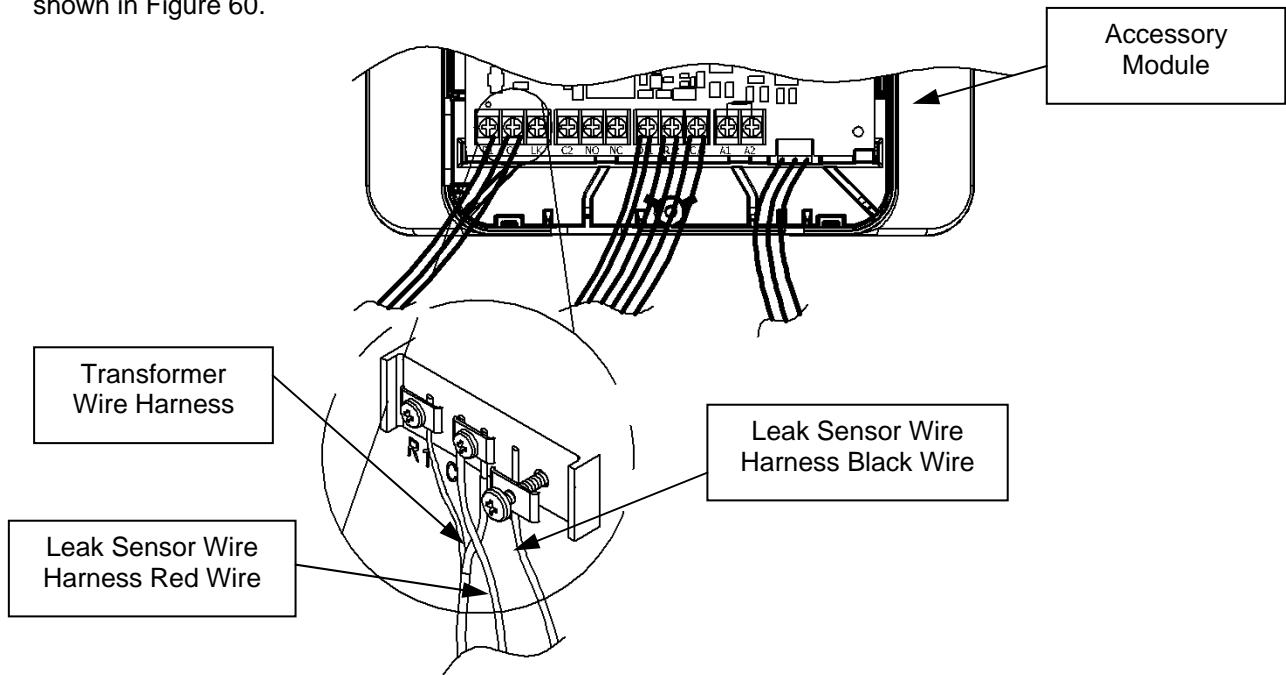

Figure 60
Step 9: Insert the black wire, from the Leak Sensor wire harness, under the screw labeled "LK." This is shown in Figure 60.